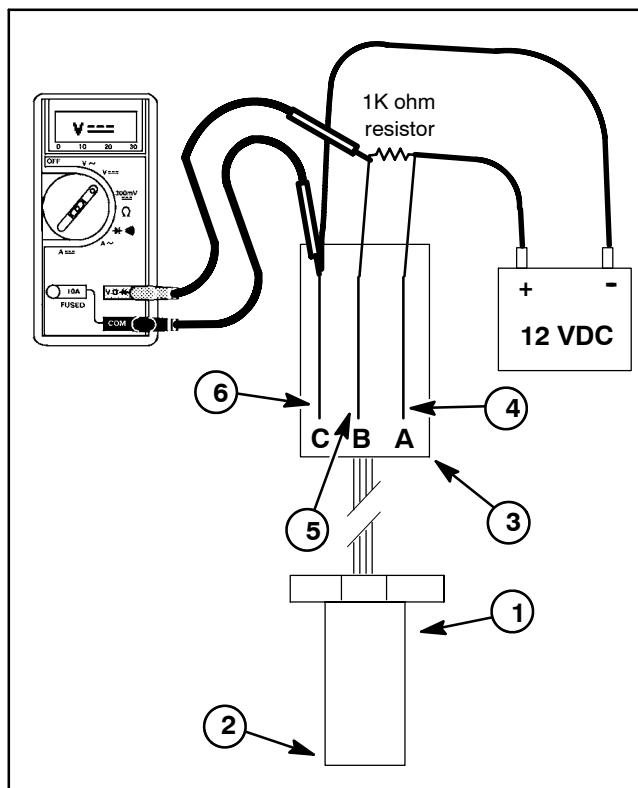

Figure 14
8. Connect positive multimeter test lead to the sensor connector gray striped wire terminal and the negative multimeter lead to the connector black wire terminal (Fig. 14). Set multimeter to ohms setting.
9. Using a +12 VDC battery, a multimeter, a 1K ohm resistor and appropriate jumper wires, connect the battery and multimeter to the speed sensor using Figure 14 as a guide.